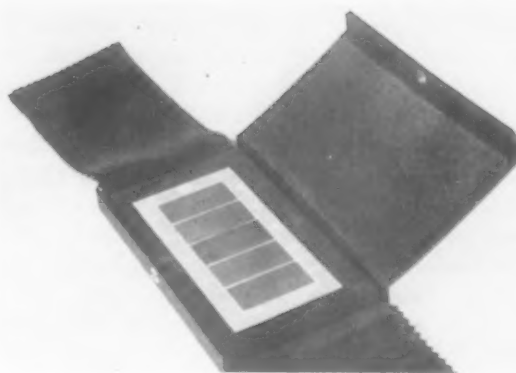

Fig. 7. Precision surface specimens are presently available in sets of five blocks.
Fig. 7. Diagram of electrolytical set-up for the determination of temperature at cutting edge. After Bickel and Widmer. F—top face; R—end relief surface; L—M—cratering or contact surface of chip; A—contacts for anode; E—electrode for scanning field potential; K—arc of cathode; a_1 —distance of arc of cathode from tool point; T_1 —isotherm 1; a_2 —distance of isotherm 1 from tool point; T_2 —isotherm 2; a_3 —distance of isotherm 2 from tool point.
Further experiments conducted by Bickel and Widmer with Tempilac thermocolors ascertained various temperature zones near the cutting edge. The values thus obtained were used in an electrolytic model of the tool tip (7). Voltage at various points was regulated according to the temperatures established with thermocolors. See Fig. 7. The potential of the electrolytic bath was then determined in various places and this permitted the computation of the proportionate temperatures as indicated in Fig. 8. The maximum temperature at the cutting tip was 1340 deg F in comparison to 1040 deg F which had been found with the tool-work thermocouple measuring the tool-chip interface temperature when turning 0.35 percent C steel with a HSS tool at 118 fpm cutting speed, 0.200-in. depth of cut and 0.020 ipr feed.
At present, the available set of precision reference specimens consists of five blocks, the 20, 32, 50, 80 and 125 microinches. They are measured in arithmetical average. This group, shown in Fig. 7, allows the calibration of surface roughness instruments at sufficient points on the scale (or scales) to check the accuracy of the readings. Frequently several scales are used on such devices to expand the smoother values. These five blocks will usually allow each scale to be checked in two places, thereby evaluating the linearity of the instrument. Before using the blocks, they should be wiped off with a soft cloth to remove hard particles which could cause wear and damage. Although the surfaces are protected by a thin overplate of rhodium, it is possible to injure them by dirt.